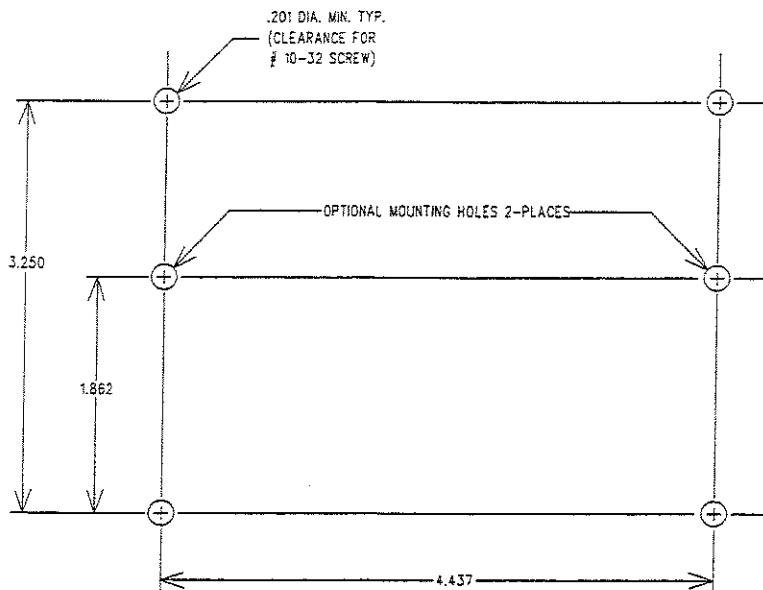

Figure A5 – Mounting hole pattern for use with optional mounting bracket.
- 14.1.2 Optional mounting bracket RITRON part number 25104600 is available for *DATAFLOW RTU*. To install this bracket to the case, remove and save the four thread-forming screws described in paragraph 14.1 to attach the mounting bracket to the case. Be sure the narrow portion of the keyhole is positioned towards the top (UHF antenna connector) of the *DATAFLOW RTU*. Use the recommended hole pattern for the optional mounting bracket shown in Figure A5.